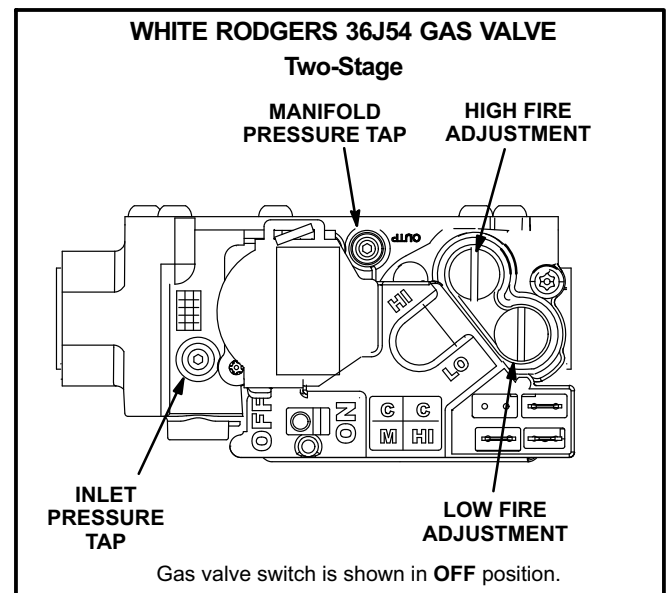

FIGURE 23
#### Gas Valve Operation (figure 23)
- 5- Move gas valve switch to **OFF**. See figure 23.
- 6- Wait five (5) minutes to clear out any gas. If you then smell gas, **STOP!** Immediately call your gas supplier from a neighbor's phone. Follow the gas supplier's instructions. If you do not smell gas, go to the next step.
- 7- Move gas valve switch to **ON**. See figure 23.